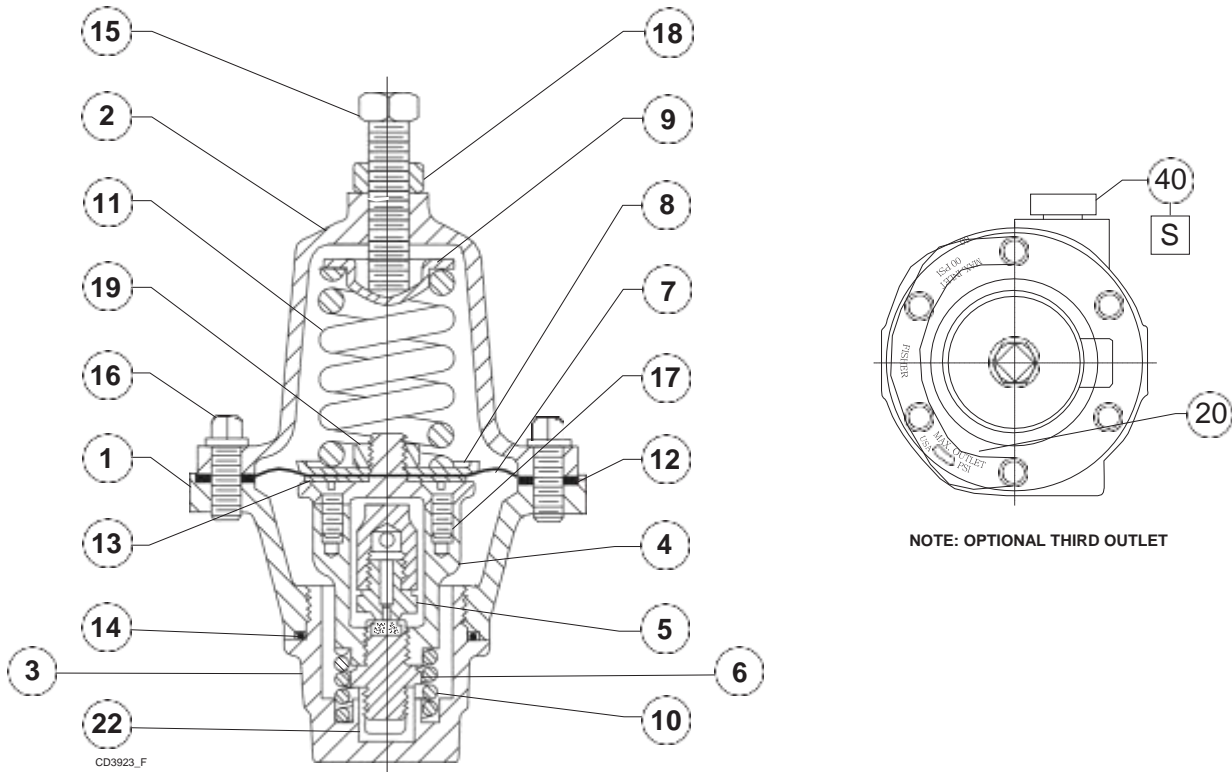
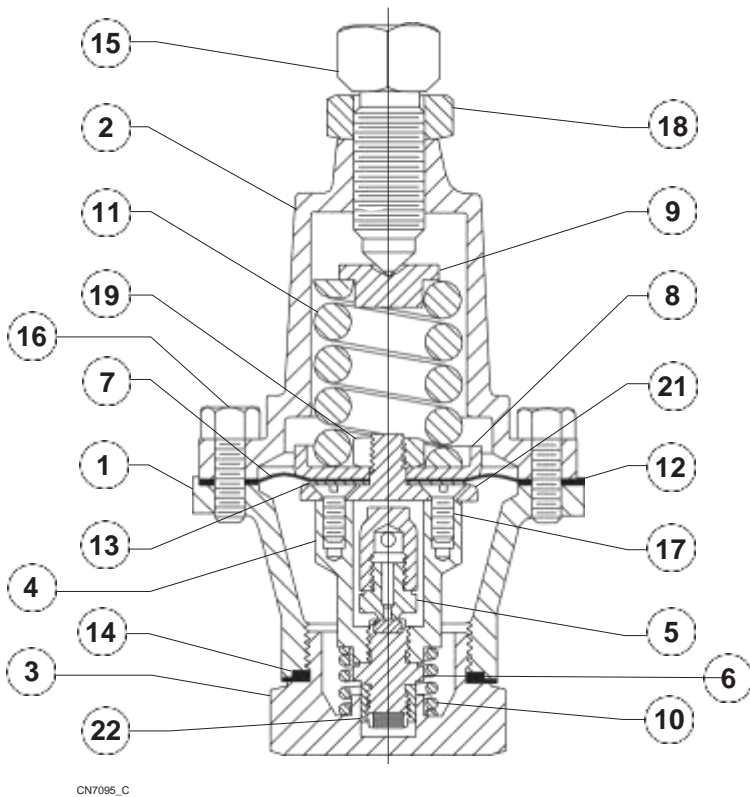

Figure 3. Type 1301F High-Pressure Regulator Assembly
Figure 4. Type 1301G High-Pressure Regulator Assembly
If adjustment is necessary, loosen the locknut (key 18, Figures 3 and 4), and turn the adjusting screw (key 15, Figures 3 and 4) clockwise to increase the set pressure or counterclockwise to decrease the set pressure. Monitor pressure with gauges during adjustment. When adjustment is complete, tighten the locknut. If the desired outlet pressure is not within the range of the regulator spring, install a spring with a desired range according to the Maintenance section.
The following procedure describes how to completely disassemble the regulator. When part replacement or inspection is required, complete only those steps necessary to accomplish the job. Key numbers referenced are shown in Figure 3 for the Type 1301F regulator and in Figure 4 for the Type 1301G regulator unless otherwise indicated.
This procedure assumes that the regulator was completely disassembled. If not, start these instructions at the appropriate step. Key numbers used are shown in Figure 3 for the Type 1301F regulator and in Figure 4 for the Type 1301G regulator unless otherwise indicated.